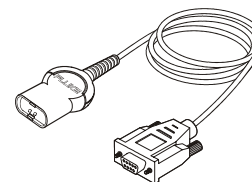

Fig. 1. PM9080
- PM9080 Optically Isolated Interface Cable (Fig. 1)
When you connect the PM8907/808 to the local line, first check the preselected voltage on this unit. You can find the voltage selector switch on the bottom of the PM8907/808. If necessary, select the corresponding line voltage with the slide switch to ensure that the proper voltage is visible in the window of the slide selector. (see Figure 1.)